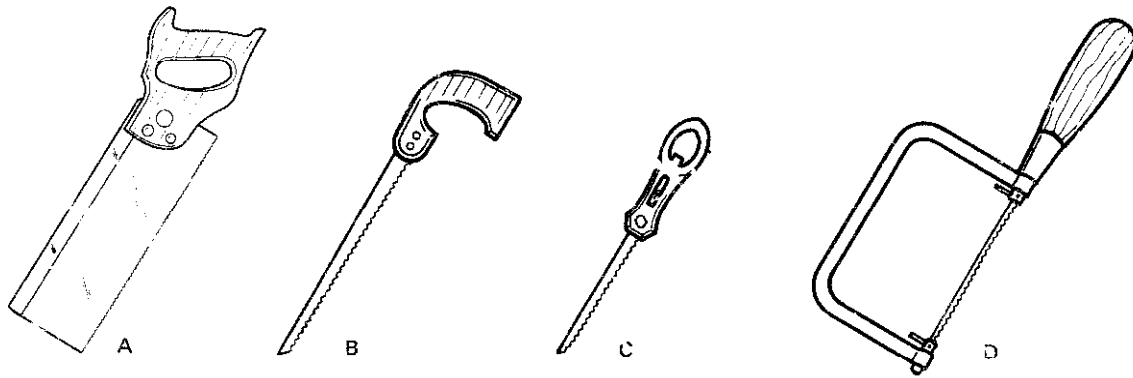

Fig. 6-26
3. Name the saws in figure 6-26 and give the main use for each saw.